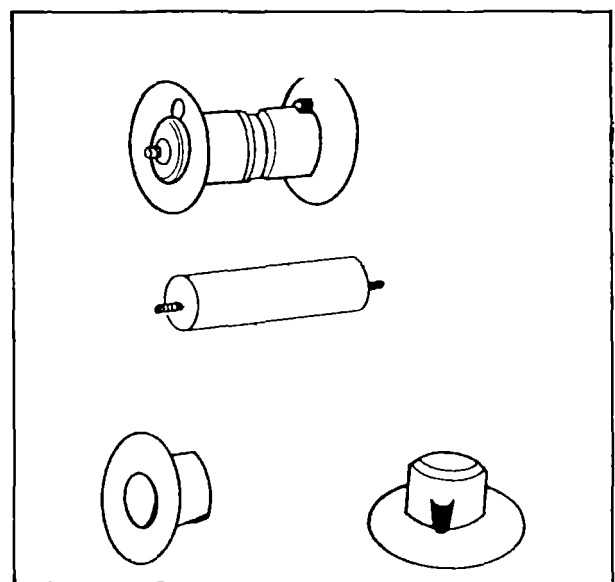

FIG 4 (II) HANGER BEARING ASSEMBLY
b) **Fulcrum Bearing assemble:** It comprises the fulcrum pin and fulcum bushes. All these are housed at the fulcrum housing. (The housing accomodates the whole assembly). (see figure 4 i)